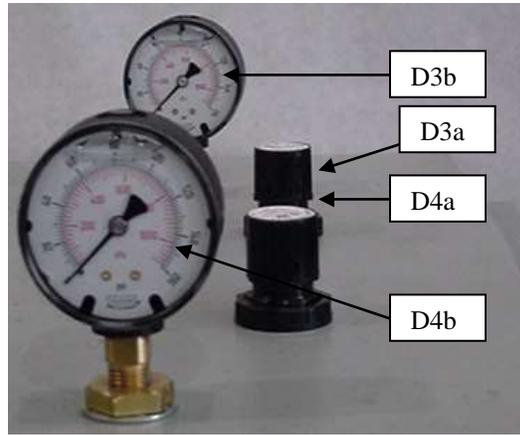

Figure 9
- (D3) System pressure regulator (D3a) and pressure gauge (D3b) (set to 115 PSI). (mounted on top of rear enclosure). See Figure 9